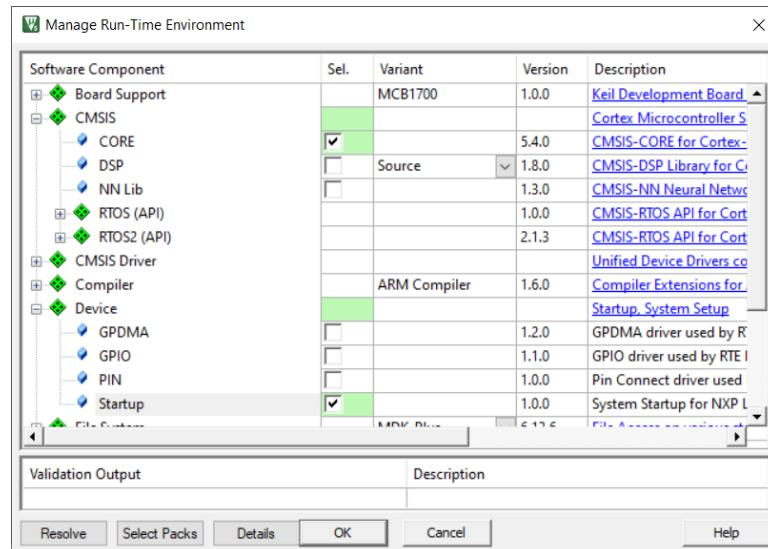

Figure 9.3: Keil IDE: Manage Run-Time Environment
- Select CMSIS → CORE and Device → Startup (See Figure 9.3).